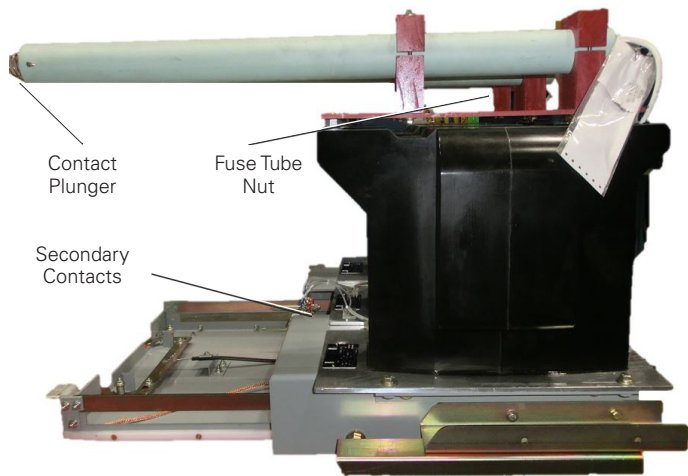

Figure 8. Transformer Drawer.
- D. The voltage transformer fuse is an integral part of the transformer. The fuse is located inside of a fuse tube mounted on top of the transformer. The transformer(s) are mounted on a drawer (see Figure 8). Check the fuses for continuity. At one end of the fuse tube is a contact spring and at the other is a contact plate. Continuity can be checked between the two ends. See the Transformers and primary fuses section of this manual for directions on how to gain access and replace fuses.
2. Place the socket of the levering crank through the cover and onto the racking screw nut. Rotate the levering crank clockwise until the transformer drawer is in the Connect position. The Connect position is reached when the torque limiter on the levering crank “breaks” free. Check to make sure the primary and the secondary contacts (see Figure 8) are engaged when the transformer drawer is in the Connect position. Use the “lighting out” or “ringing” methods to verify.